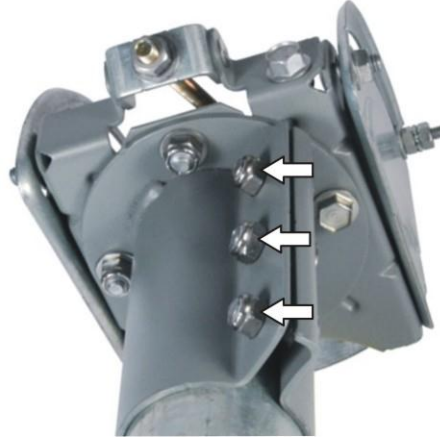

Figure 33: Az/El canister nuts
1. Loosen the three Az/El canister nuts shown in Figure 33 enough to allow the antenna assembly to rotate freely on the mast.